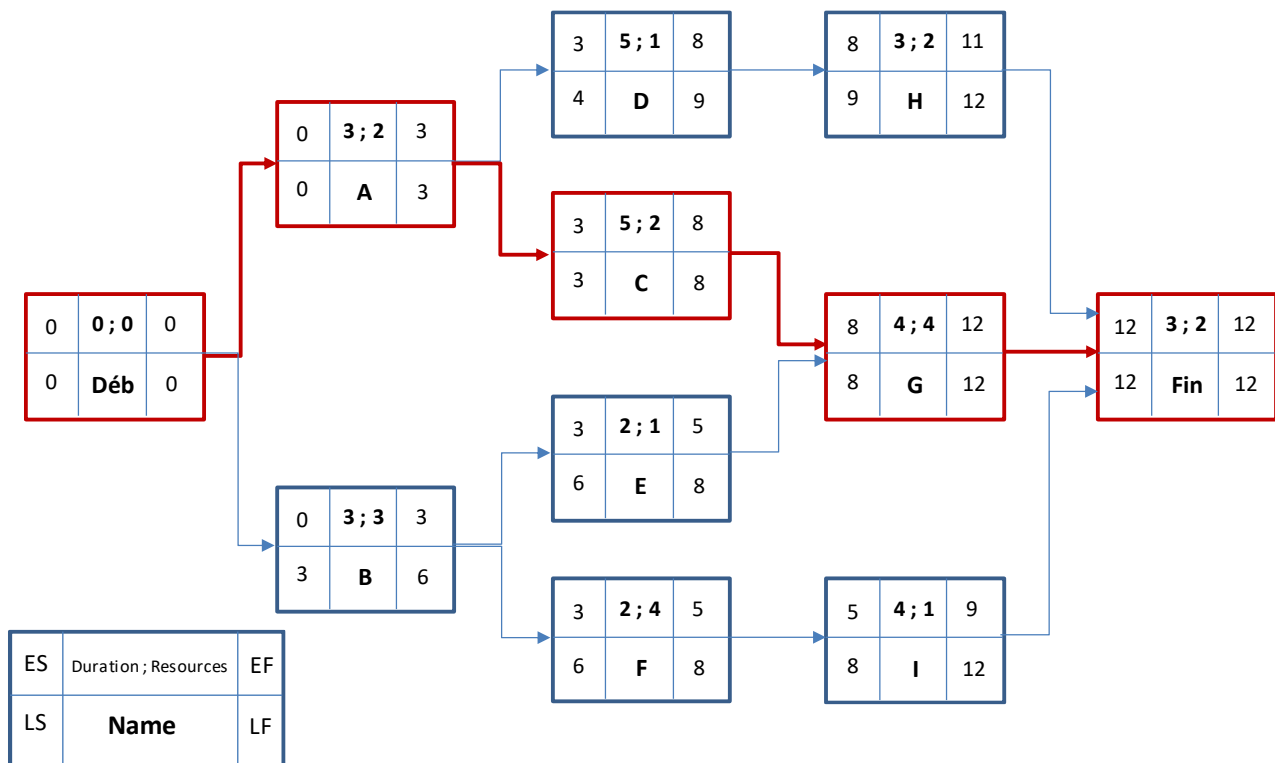

Figure 1 – Resource conflicts
Figure 1, indicates the network, critical path and for each activity, the duration, the number of resources per day, the Early Start (ES), the Early Finish (EF), the Late Start (LS), the Late Finish (LF), the total Float (TF), and the Free Float (FF).